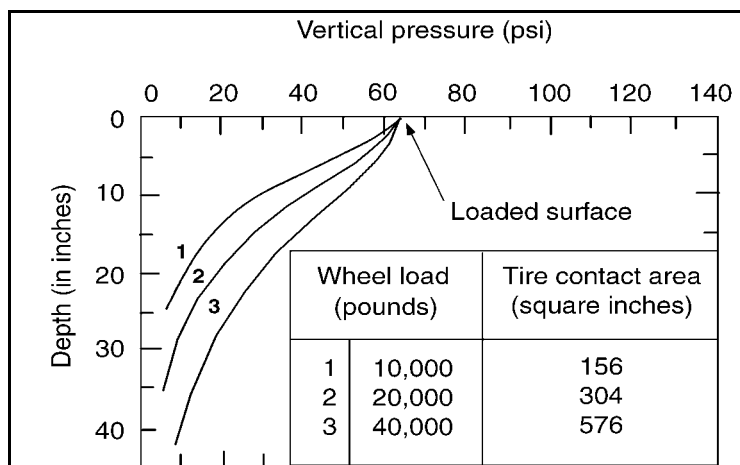

Figure 11-7. Vertical Pressure Distribution Beneath a Wheel Load
- Wheel load.** The wheel load is significant for compacting at the required depth or in test rolling to detect subsurface defects. Researchers have built test sections in 6-inch compacted layers with wheel loads of 10,000; 20,000; and 40,000 pounds to determine if increased wheel loads would increase density. In the tests, the tire's inflation pressure was maintained at a constant 65 psi. *Figure 11-7* shows the vertical pressure distribution for the tire loadings. As shown, the effective pressure varies with the depth. However, at shallow depths, the pressure difference among the three loads was not